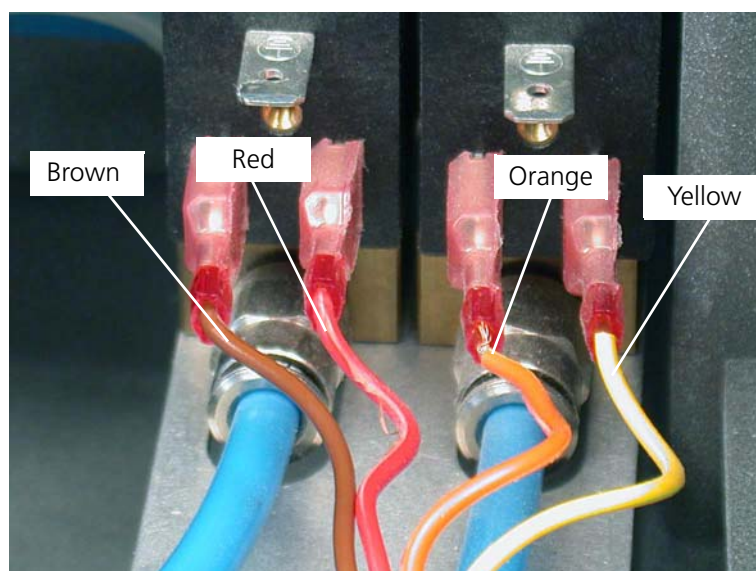

Figure 11-188. Noting the colors of the cables
3. Note the colors of the cables. (Figure 11-188)